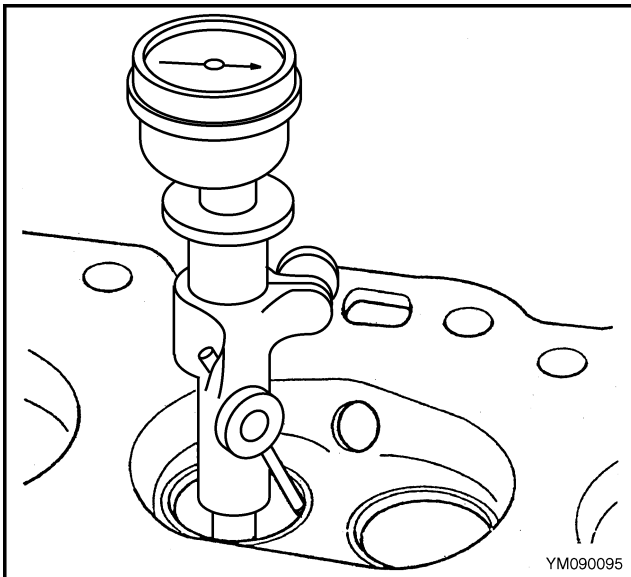

Figure 13. Valve Seat Runout Measurement
6. Measure the valve seat runout. The valve seats should be centered to within 0.0508 mm (0.002 in.). See Figure 13.